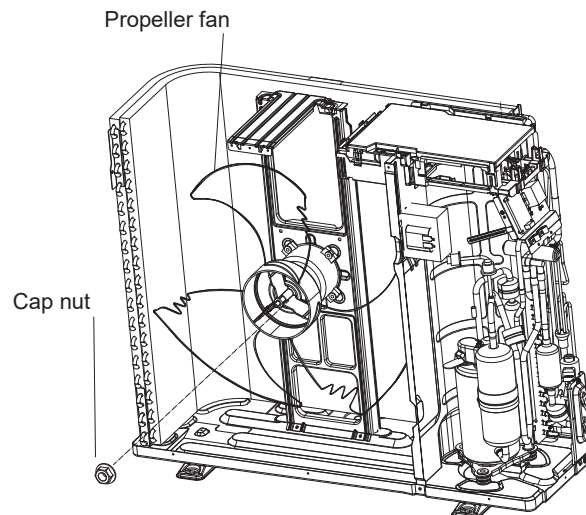

Fig.2.5
3. To remove the propeller fan remove the cap nut which fixes the propeller fan onto the motor shaft, as is shown in Fig.2.5.